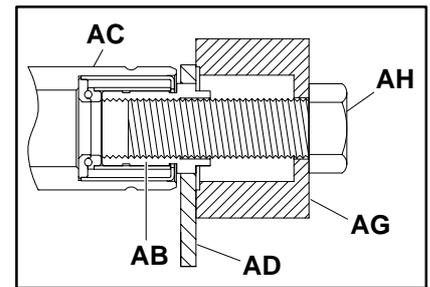

Figure 15
Position the bearing anvil/sleeve removal tool (AG of Figure 15), part number ☆25-09, over the retaining sleeve (AB of Figure 15).
Insert the special threaded bolt (AH of Figure 15), part number ☆906-278, through the bearing anvil/sleeve removal tool (AG) and into the retaining sleeve (AB).